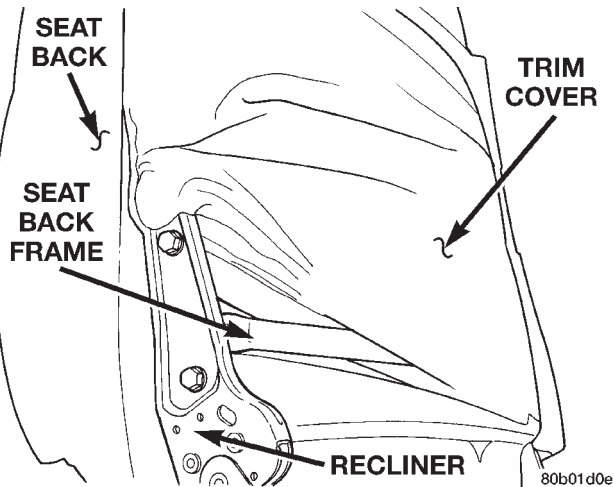

Fig. 6 Power Recliner Adjuster Upper Bracket Remove/Install
(8) Remove the seat back from the seat cushion and place it on a suitable work surface.
(9) Carefully pull up the side of the seat back cover far enough to access the two screws that secure the power recliner adjuster upper bracket to the seat back frame (Fig. 6). Refer to Group 23 - Body for the seat back cover removal procedures.